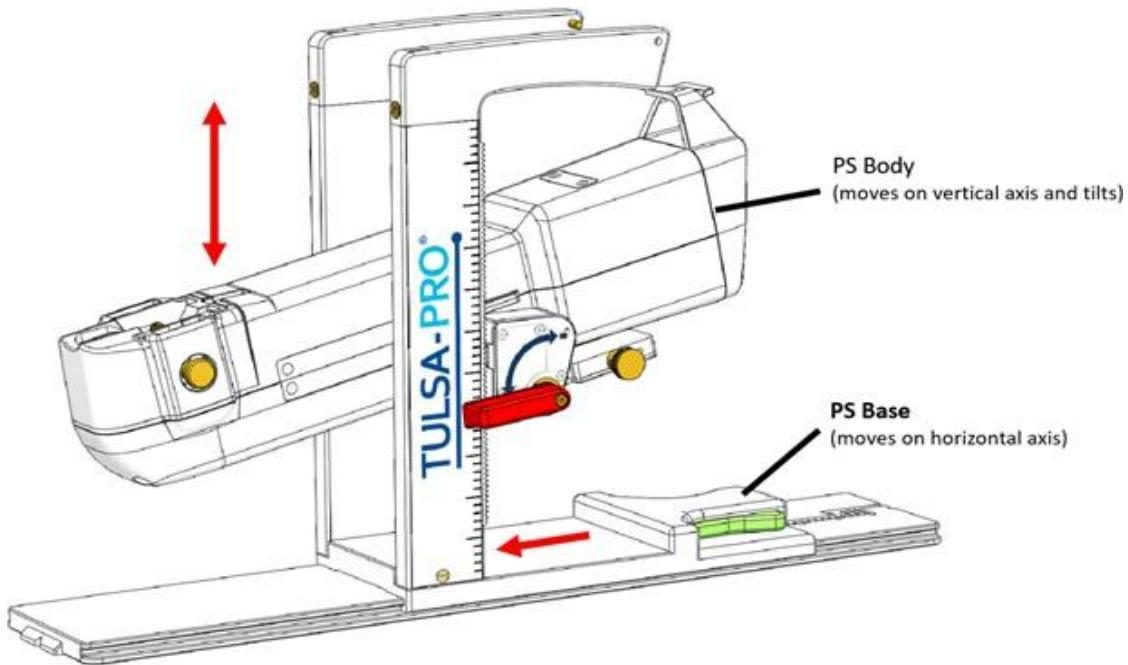

Figure 24: Adjusting the Positioning System
3. **MRI Technologist:** Manually move the PS into position so that the UA gripper aligns with the natural angle of the UA in the patient. Manually adjust the PS forward and backward, up and down, and left to right, and tilt the linear axis of the PS up and down (Figure 24).
NOTE: The PS adjustment knobs and levers are not colored as in *Figure 24*, but are colored here to help with these instructions.